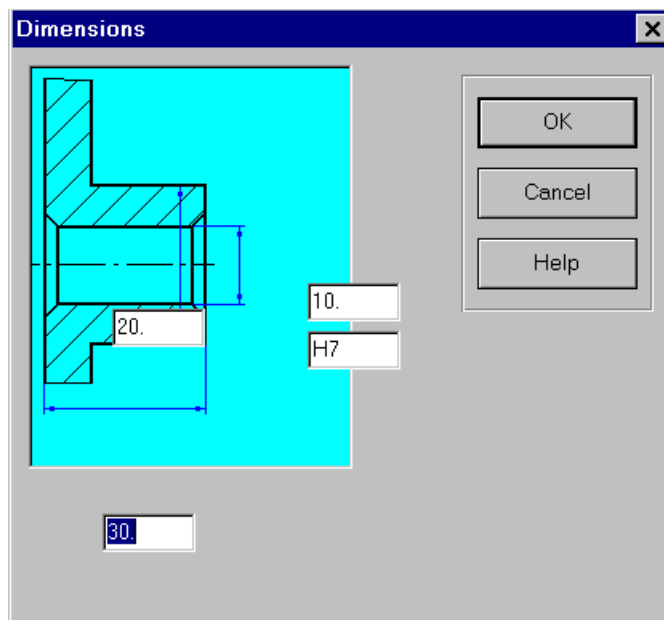

Fig. 6.16 Dialog Dimensions
- The *Dimensions* dialog box (fig.6.16)